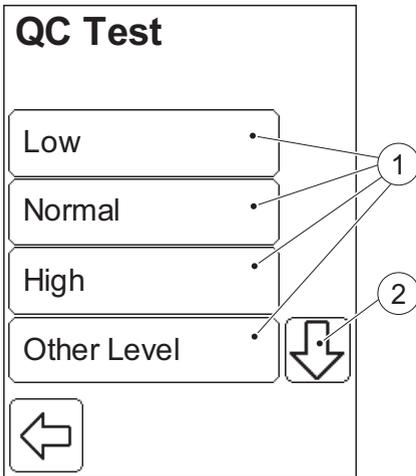

FIGURE 8-6
FIGURE 8-6 will be displayed.
f) Press the Confirm button (8). FIGURE 8-6 or FIGURE 8-11 will be displayed.
- a) To perform a Linearity Test, press the linearity button in the QC test options display, see FIGURE 8-6 .